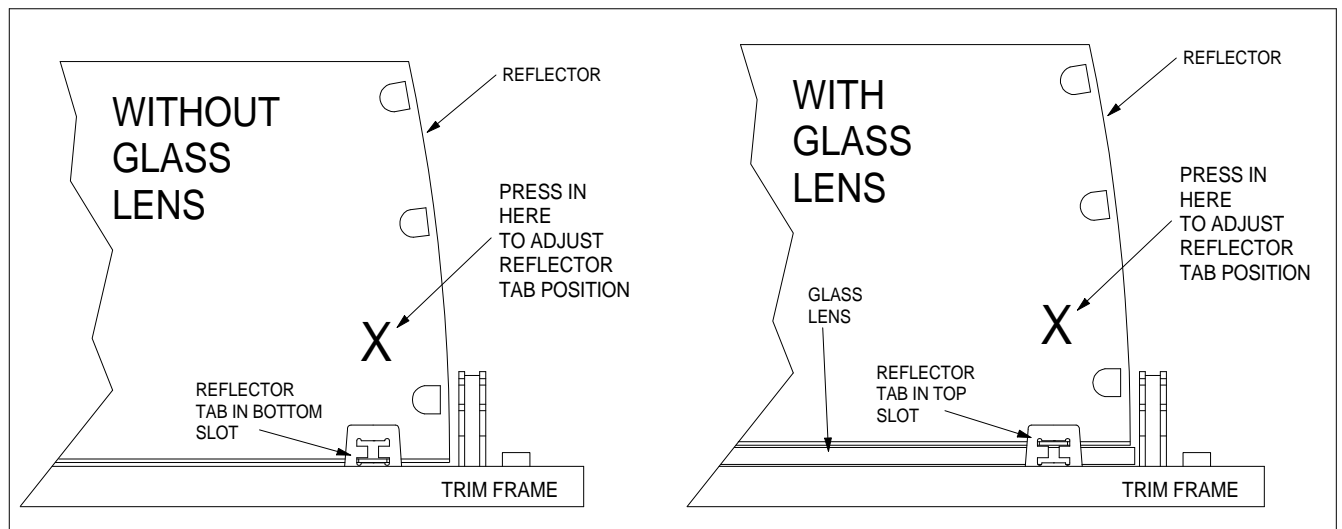

Figure 4 - Optional Glass Lens Installation
6. Install the trim and related components onto the fixture as shown in Figures 4 and 5.